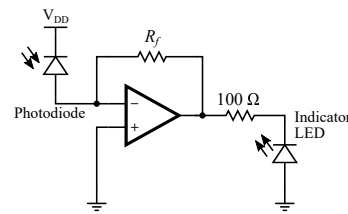

Figure 6: Receiver implementation 2.
7. Rewire Receiver 1 into Receiver 2 (Fig. 6). Repeat steps 1-6.